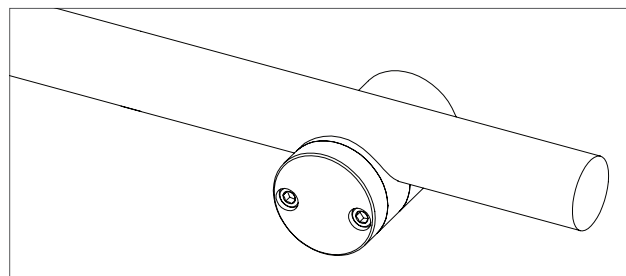

Figure 5
8. Tighten front spacers (Figure 5).